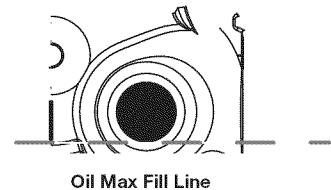
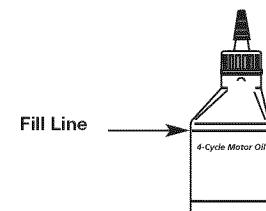

Fig. 18
Fig. 22
- Look into the oil fill hole, use a flashlight if needed. The oil should be just touching the inner most thread (Fig. 18).
**NOTE:** Use the bottle and spout saved from initial use to measure the correct amount of oil. The top of the label on the bottle measures approximately 3.04 fl.oz. (90 ml) (Fig. 22). Check the level. See *Checking the Oil Level*. If the level is low, add a small amount of oil and recheck. Do not overfill (Fig. 18).